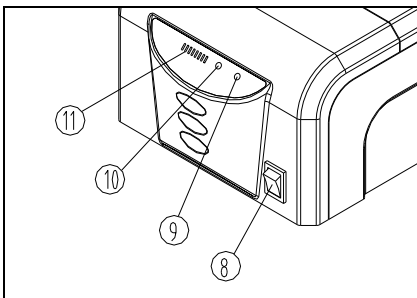

Fig 38
(2) Turn on the switch ⑧ on the battery pack to start power supplying. The indicator ⑨ is green in normal while the indicator ⑩ is orange (the indicator ⑩ becomes green when the pack is fully charged.) At the same time, the last bulb of the light strip ⑪ is red while other bulbs are green. When it is low battery, the indicator ⑨ is orange while the indicator ⑩ is orange. At the same time, only the last bulb of the light strip ⑪ is red. (See Fig.38)